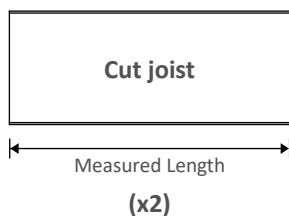

Fig. 117
3. Using Evolution Self-Drilling Screws, Mount two F-50 Brackets onto opposite ends of the cut Joist cuts. Be sure the outside edge of the F-50 Brackets and edge of the joist are flush. As shown in Fig. 117 & 118.